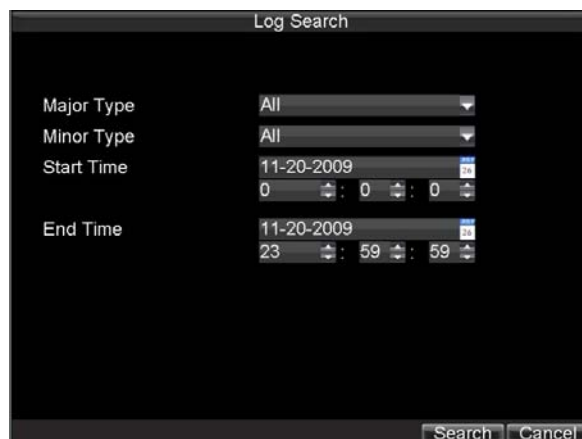

Figure 15. Log Search Menu
1. Enter the Log Search menu, shown in Figure 15 by clicking Menu > Maintenance > Log Search.